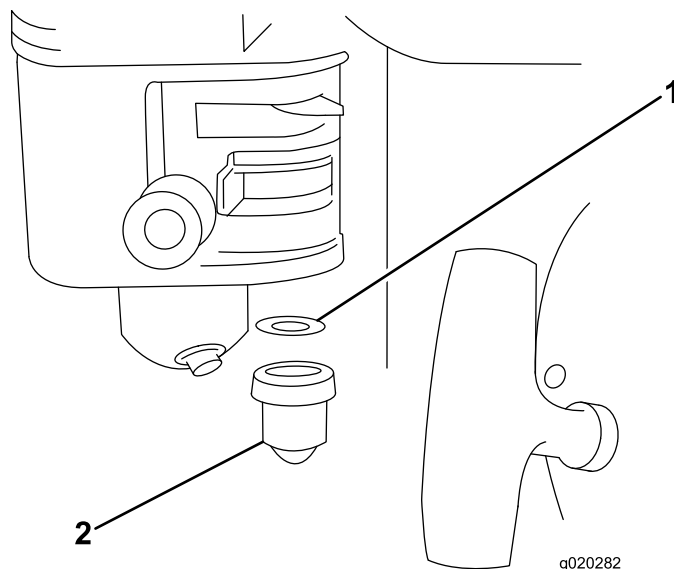

Figure 19
4. Remove the sediment cup and O-ring (Figure 19).